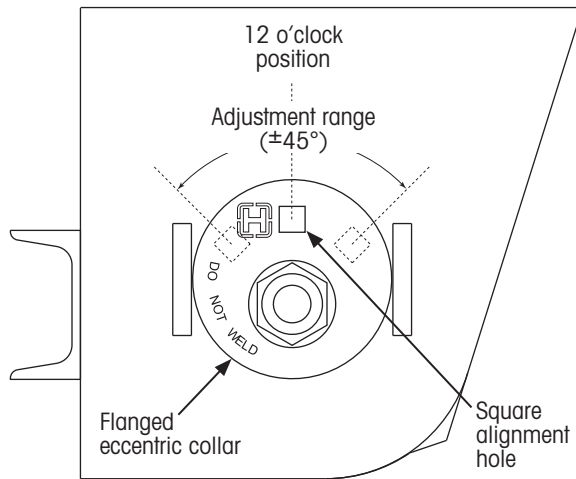

Figure 25: Eccentric collar orientation details
3. **Inspect** the orientation of the square alignment hole in the flanged eccentric collar (Figure 25). The square alignment hole must be at the 12 o'clock position, which is the middle of the alignment adjustment range.